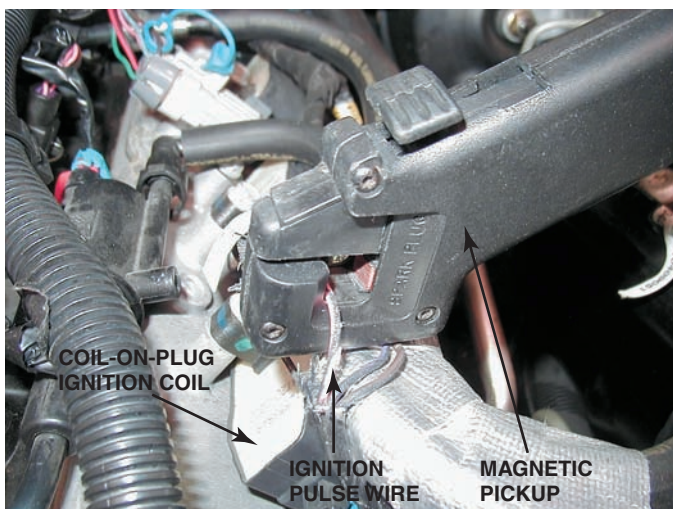

FIGURE 34-64 A magnetic pickup being used to monitor engine speed when the vehicle is being tested on a chassis dynamometer.
- Magnetic pickups ● **SEE FIGURE 34-64.**